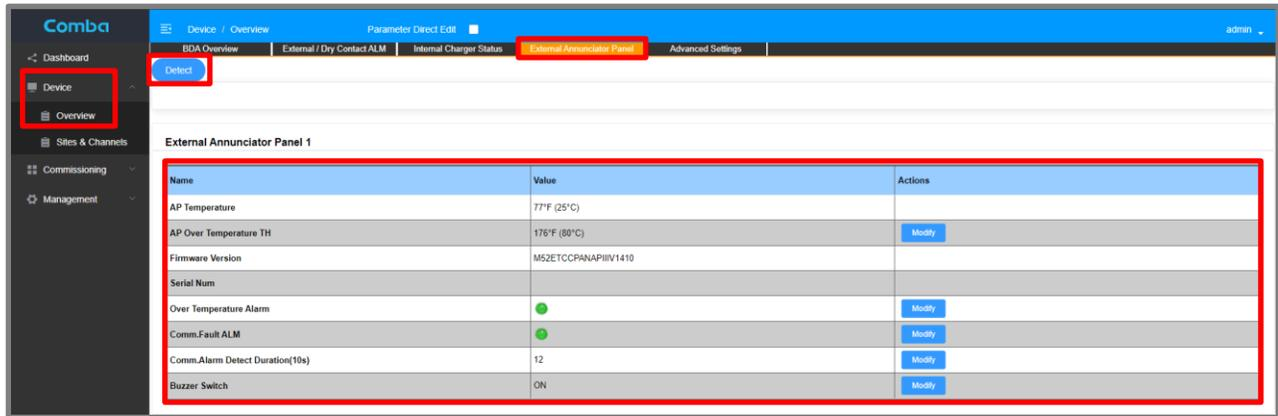

Figure 109: Commissioning V3 AP in BDA mode
- For BDA mode, navigate to Device -> Overview -> External Annunciator Panel. See Figure 109.